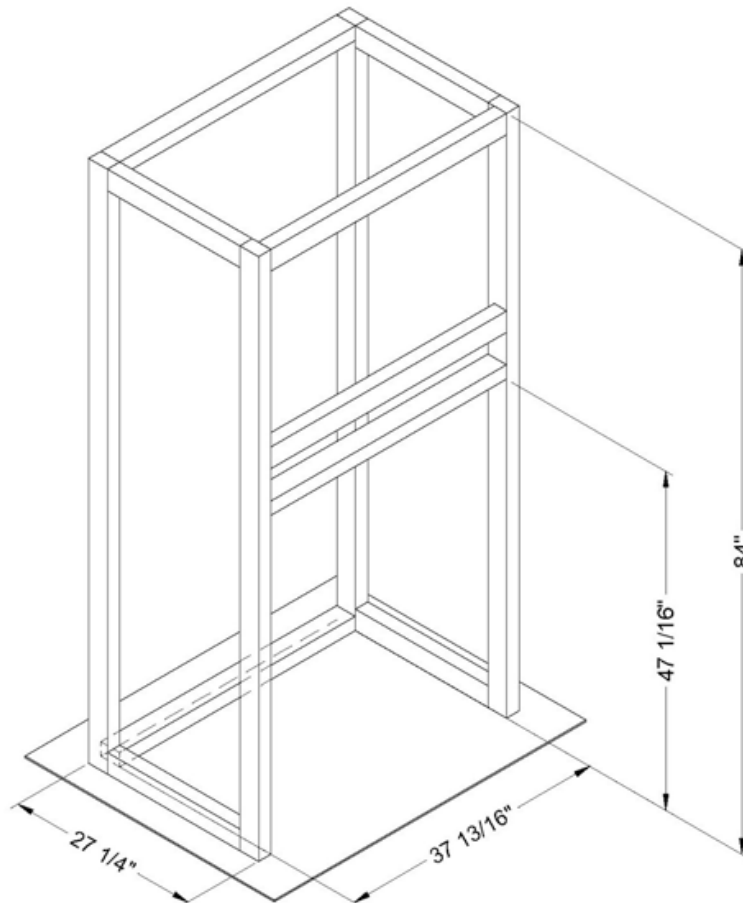
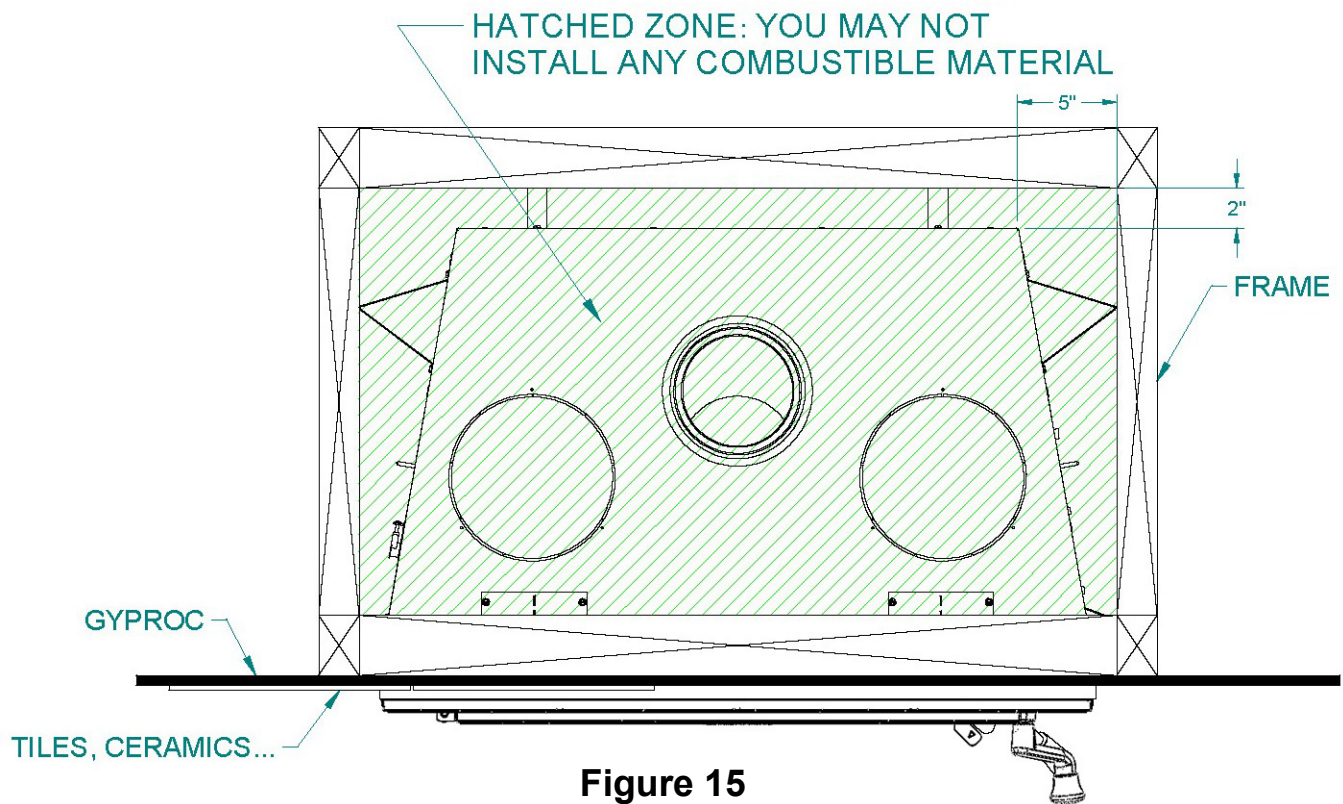

Figure 14
Figure 15
B. Frame the fireplace with vertical studs at the sides of the fireplace running from floor to ceiling (see figure 14). Position the studs back from the front edge of the fireplace, a space the thickness of the facing material so that the facing can be installed flush with the fireplace facing (within limitations of figure 15). Frame headers between the vertical studs only as follows: